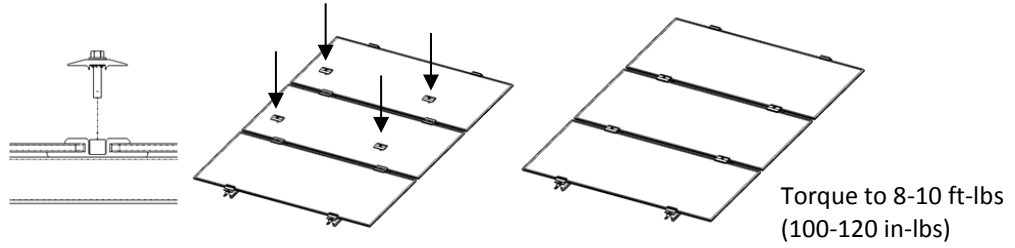

Figure 5 Secure all modules with Fast Clamps.
- 1.6 Secure all modules. Affix the fast mount clamps over the fast clamp insulators while folding down the insulator ears over the solar module. Torque the fast clamps to 8-10 ft-lbs (100-120 in-lbs). Figure 5